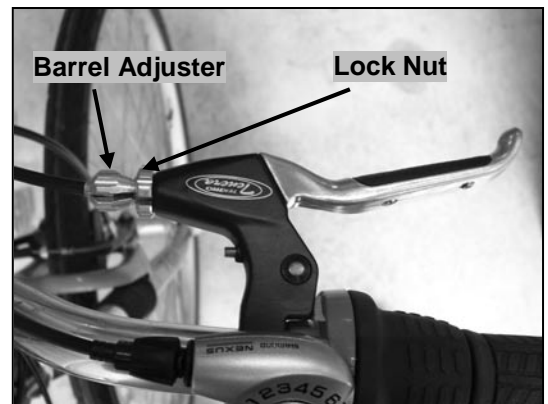

Figure 1: Brake lever, with barrel adjuster and lock nut shown.
Step 1: To tighten the brakes, first loosen the lock nut on the barrel adjuster. (See Figure 1) Then turn the barrel away from you (same direction the tires move on the bike when the bike is in motion). The brake pads should engage the rim when the lever is at least at its half way point. Retighten the lock nut against the lever housing.